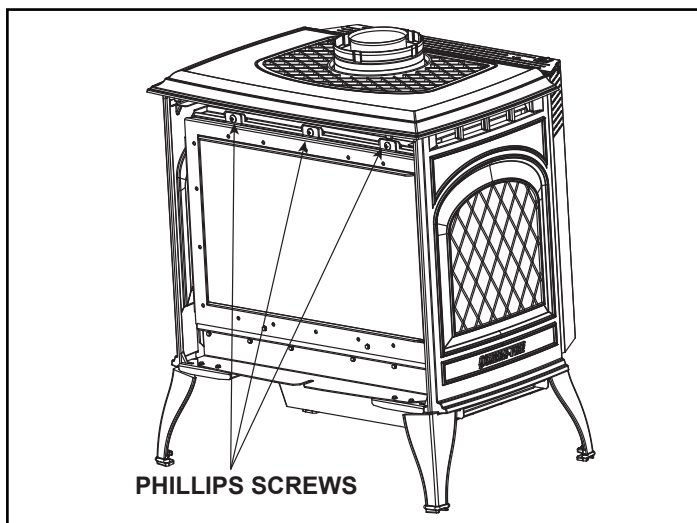

Figure 10.2 Remove Glass Frame
2. Release both glass latches at the lower corners of the appliance. Remove glass from appliance. See Figure 10.2.